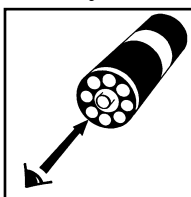

Figure 4
- a. Place the CHEMet ampoule, flat end downward into the center tube of the low range comparator. Direct the top of the comparator up toward a source of bright light while viewing from the bottom. Rotate the comparator until the color standard below the CHEMet ampoule shows the closest match (fig 4).